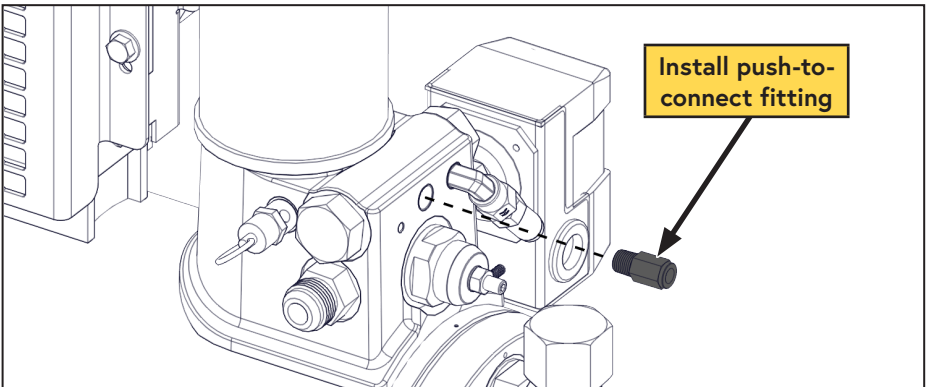

Figure 25 — Install push-to-connect fitting
- Apply Loctite 567 (thread sealing) compound to the 1/4 in push-to-connect fitting and install it into the threaded hole which previously held the blowdown muffler (Figure 25).